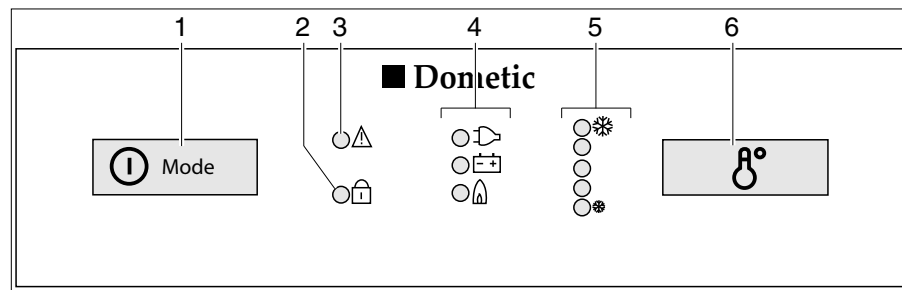

Fig. 333 Operating controls for the refrigerator (Dometic 8 series with MES)
- Press the on/off switch/energy selector switch (Fig. 333,1) down for 2 seconds in order to switch on the appliance. The LED of the operating mode chosen most recently lights up.
- If appropriate press the on/off switch/energy selector switch (Fig. 333,1) until the gas operating indicator "🔥" lights up. Gas supply is open. Ignition will take place automatically. A ticking sound can be heard until ignition has been completed successfully.
- Use switch (Fig. 333,6) to adjust refrigerating temperature.
- If appropriate press the on/off switch/energy selector switch (Fig. 333,1) several times until the operating indicator 240 V "" lights up.
- If appropriate press the on/off switch/energy selector switch (Fig. 333,1) several times until the operating indicator 12 V "" lights up.